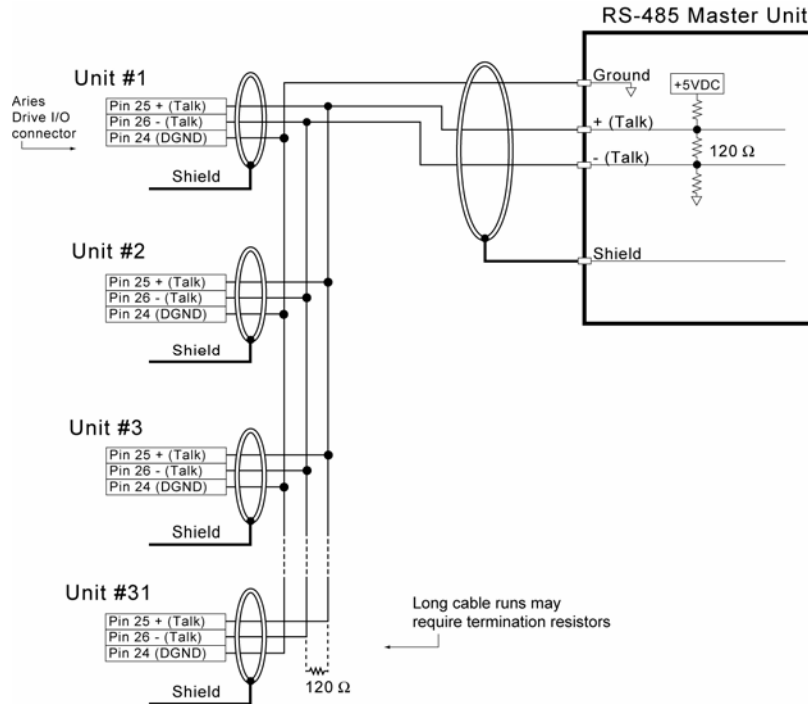

Figure 36 RS-485 Multi-drop Connections
For connection information, see Figure 36.
RS-485 multi-drop lets you connect up to 99 Aries drives together (see Figure 36). Every drive is factory configured with a default address—zero (0). Using the `ADDR` command, you can assign a unique address to each drive. You must address each drive individually before connecting it to the multi-drop network.